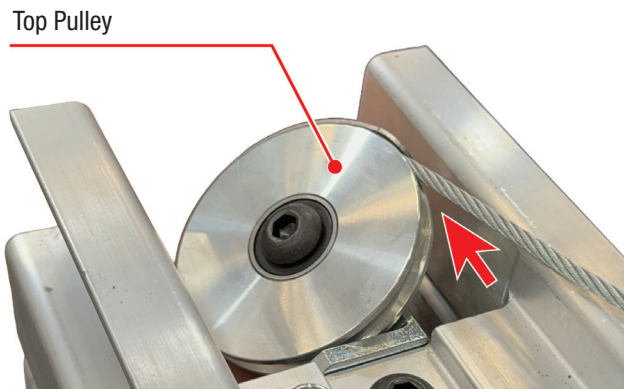

Figure 4-8: Loading Cable to Front Mast Top Pulley
17. Feed the cut end of the cable into and around the front mast's top pulley (see Figure 4-8).